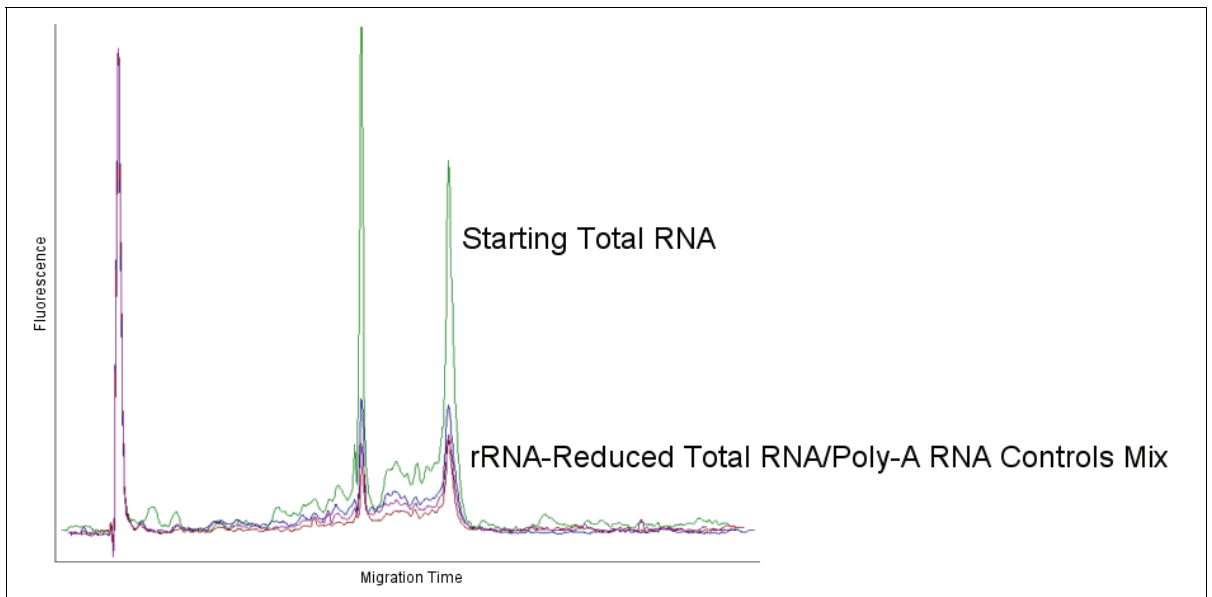

Figure 2.1 Bioanalyzer profile of Human Brain total RNA before and after rRNA reduction with RiboMinus Kit (treated samples are in triplicates)
1. Use 1 μL of the concentrated sample to check its quality by running the Eukaryotic Total RNA Nano Assay in the Bioanalyzer. Please see the Reagent Kit Guide provided with the RNA 6000 Nano LabChip Kit for instructions. Based on the Bioanalyzer results, on average, >100 ng of rRNA-reduced sample may be recovered from 1 μg of total RNA starting material; but the recovery rate may vary depending on the tissue type. See Figure 2.1 for an example of the results.